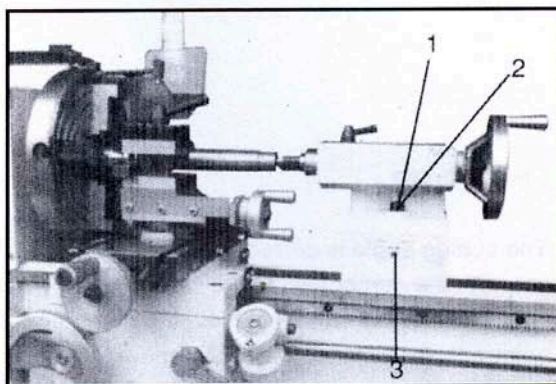

Fig.17
Work to a side angle of 5° can be turned by off - setting the tailstock. The angle depends on the length of the workpiece. (Fig. 17)
To off - set the tailstock, loosen locking screw(1, Fig. 17) Loosen the front adjusting screw(2) and take up the same amount by tightening the rear adjusting screw(3) until the desired taper has been reached. Tighten the front screw to lock the tailstock in position. The workpiece must be held between to centers and driven by a face plate and driver dog.